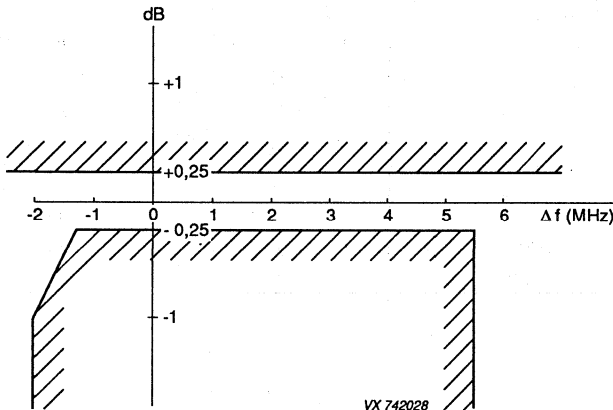

Fig. 3.
10. Standard I: klystron tuned to frequency response according Fig. 3.